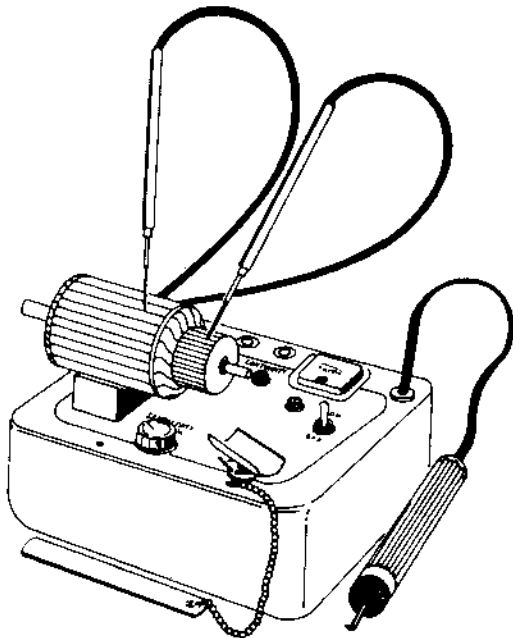

Figure 12 - Armature Ground Test
1. Place armature in growler of tester. Turn on power. Figure 12.